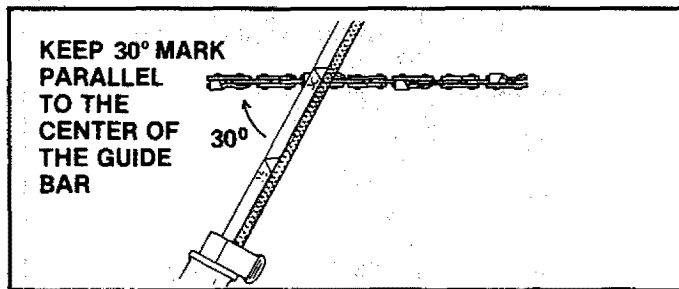

Figure 39
- b.) Hold the file holder level with the 30° guide mark parallel to the center line of the bar. Figure 39.